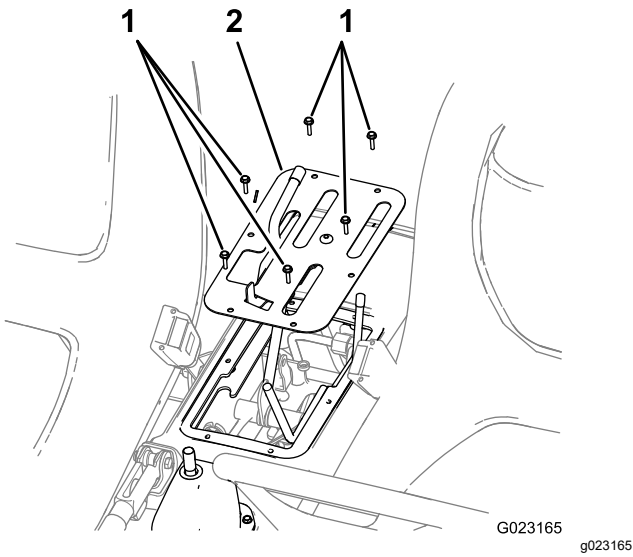

Figure 7
3. Remove the 6 screws securing the outside edge of the cover plate of the center console to the chassis and remove the cover plate (Figure 7).